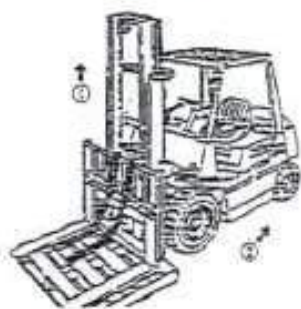

Figure 2-53
- (1) Place a tray on the forklift and park it on level ground.
- (2) Lower the fork and tray down to the ground.
- (3) Remove the upper end joint of the chain and remove the chain from the chain wheel.
- (4) Lift the inner main frame (① in Figure 2-53).
- (5) Reverse the forklift after confirming that the fork frame has been separated from the outer main frame (② in Figure 2-53).
- (6) Replace the main roller